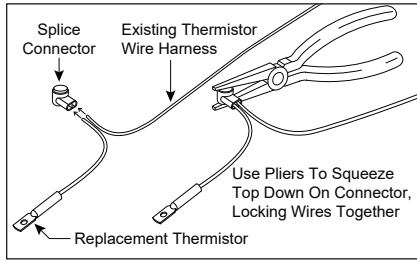

Figure 92 - Splice Connector
- 8 Using a splice connector included in this kit, insert the ends of the wires into the splice connector as shown in Figure 92 on the following page. **DO NOT** strip the insulation from wires. Use pliers to squeeze the top of the connector down, locking the two wires together.
17 Using a splice connector included in this kit, insert the ends of the wires into the splice connector as shown in Figure 92. **DO NOT** strip the insulation from wires. Use pliers to squeeze the top of the connector down, locking the two wires together.